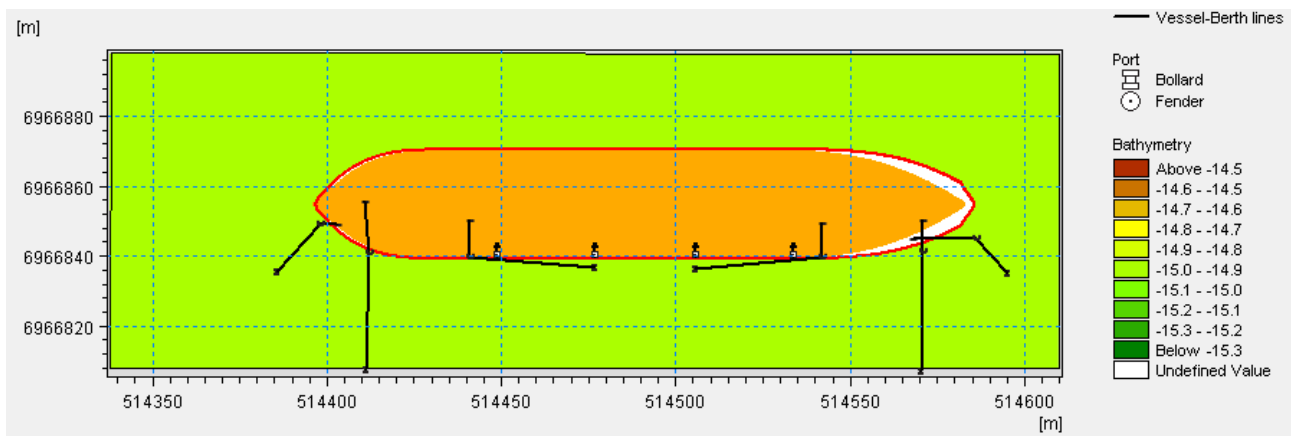

Figure 3-18 Moored vessel in port domain with mooring system connected
5. The image shown in Figure 3-18 should show up on your screen showing the berth pocket depth (constant 15 m), vessel and shore based connection points and the vessel position.